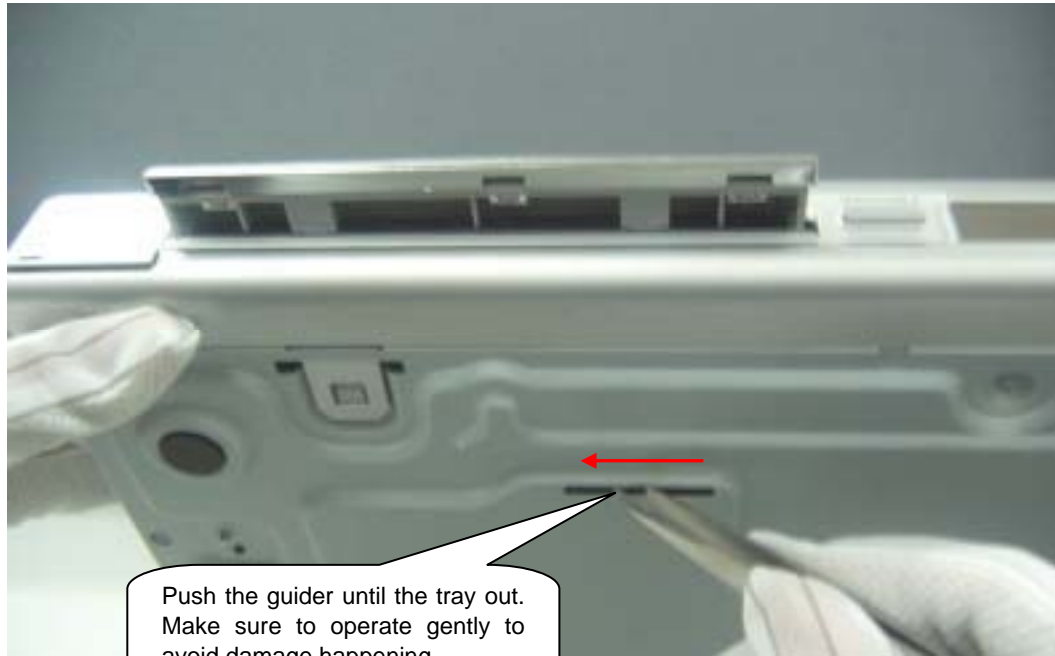

Figure 3
**Step3:** If the tray can't open in normal way, you can make it through the instruction as below (Figure 3).